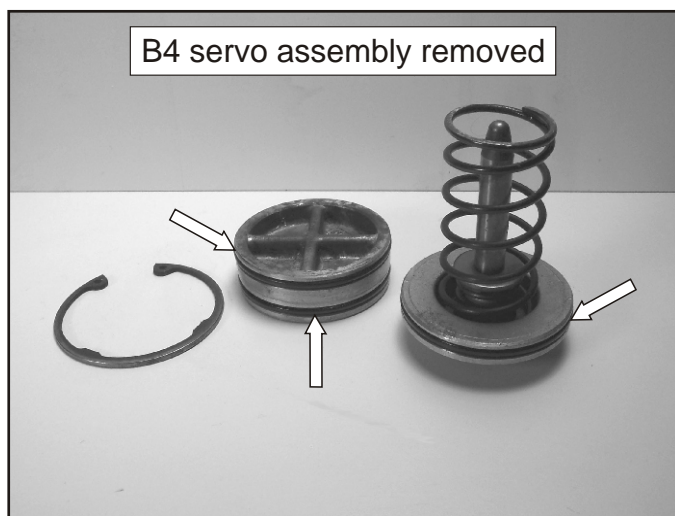

Figure 254
- 182. Replace the o-rings on the cap and B4 servo assembly as shown in Figure 254.